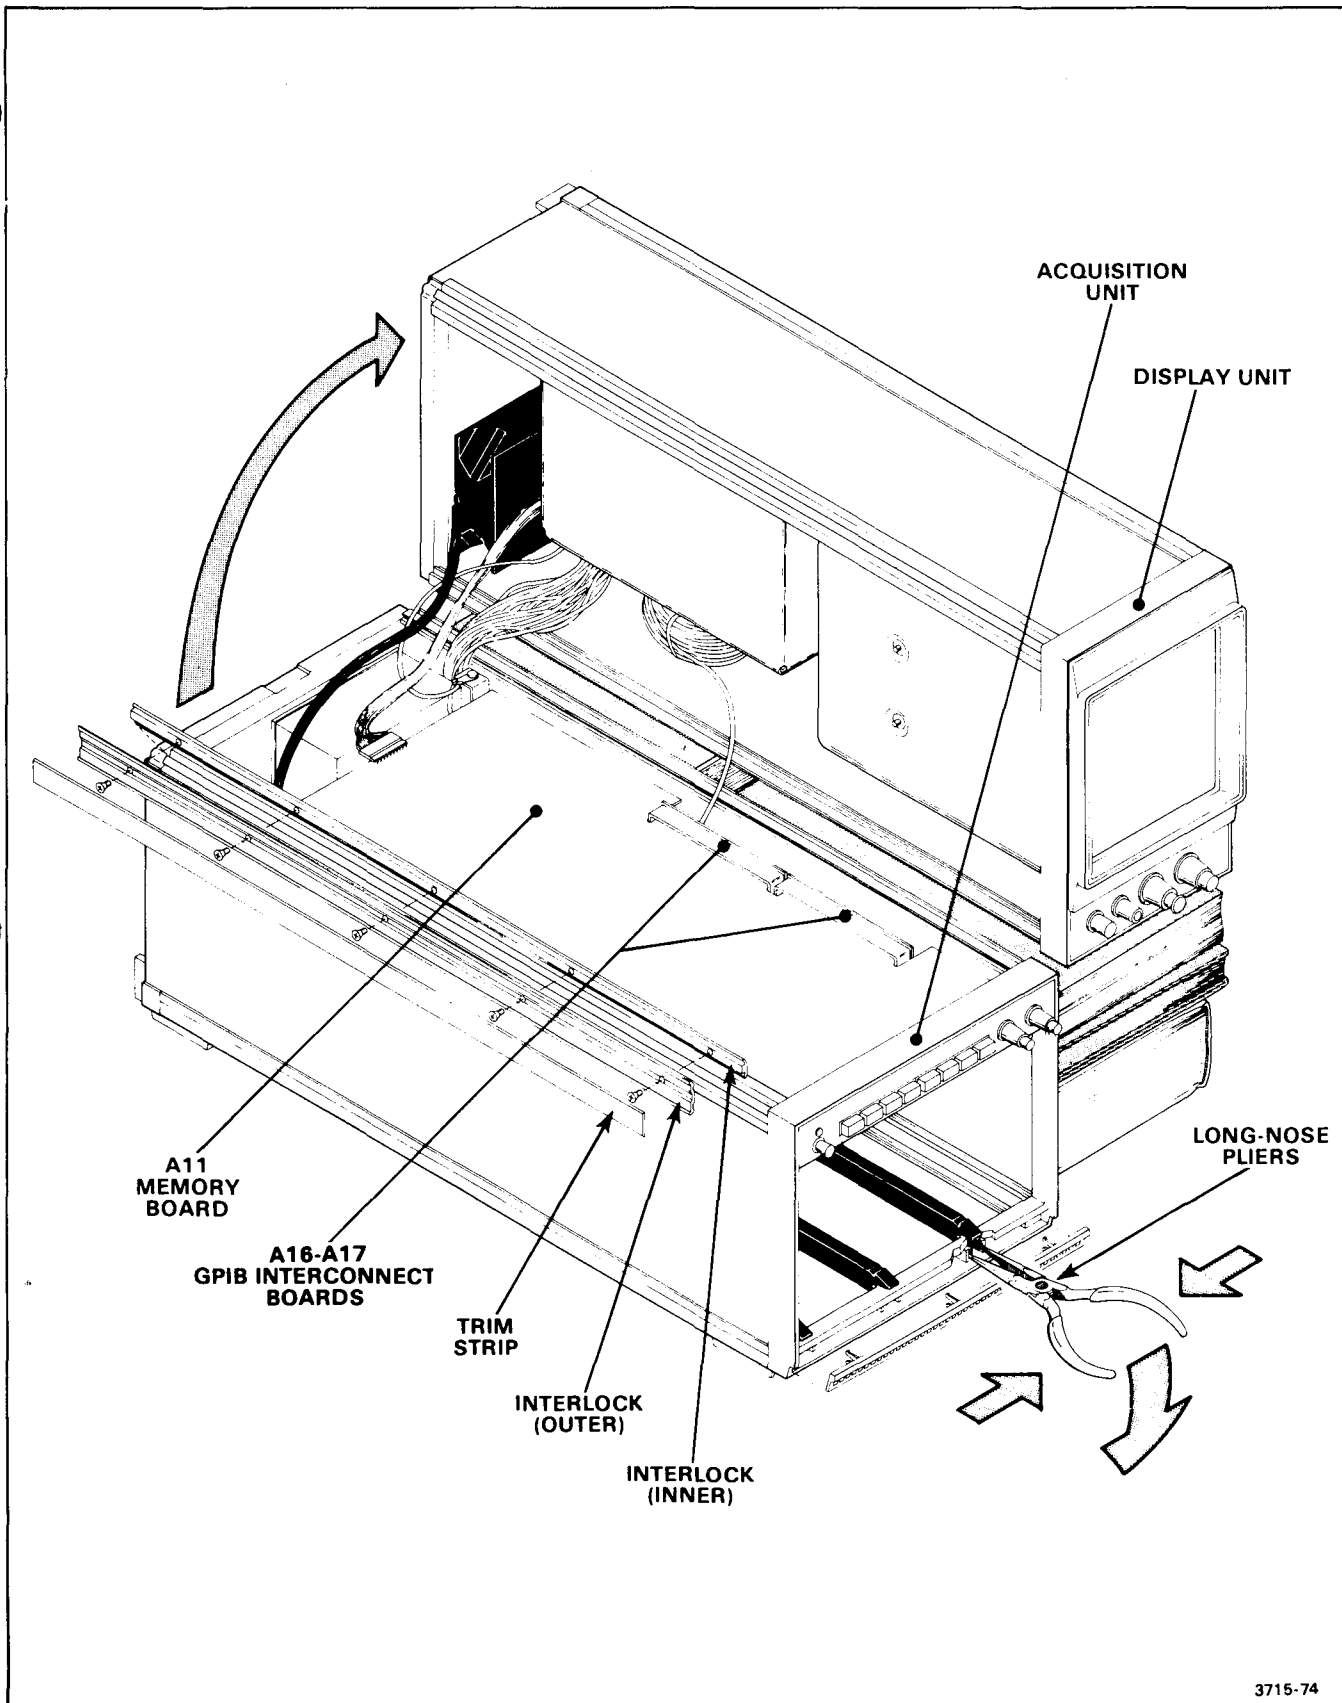

Figure 5-13. A11-Memory board and plug-in guide removal.
3. Remove the 3 plug-in guides (see Fig. 5-13).
1. Bench model only (Rackmount procedure begins at step 5)—remove the protective cabinet panels from the Display unit (see Cabinet Panel Removal) then proceed with the following instructions (refer to Fig. 5-13).
4. Separate the Display and Acquisition Units as shown in Figure 5-13.